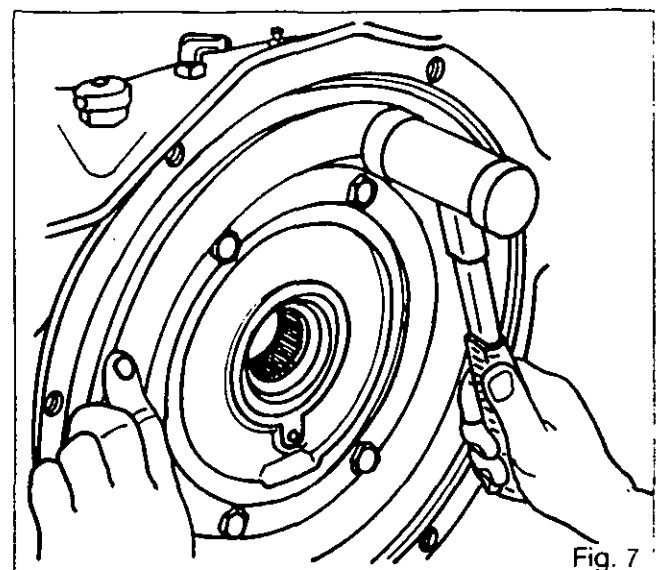

Fig. 7
10. Position the piston over the dowels, then fit it in to place with the aid of a plastic mallet, striking alternate points around the circumference (Fig. 7).